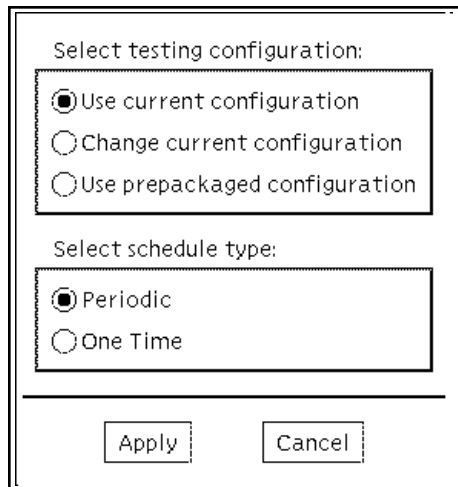

FIGURE 3-9 Create Option Under the Schedule Menu
The following screen is displayed (see FIGURE 3-9).
- 3. Select the schedule type (Periodic or One Time) on the bottom of the screen shown in FIGURE 3-9.**
- FIGURE 3-11 if you checked Periodic in FIGURE 3-9
- FIGURE 3-12 if you checked One Time in FIGURE 3-9